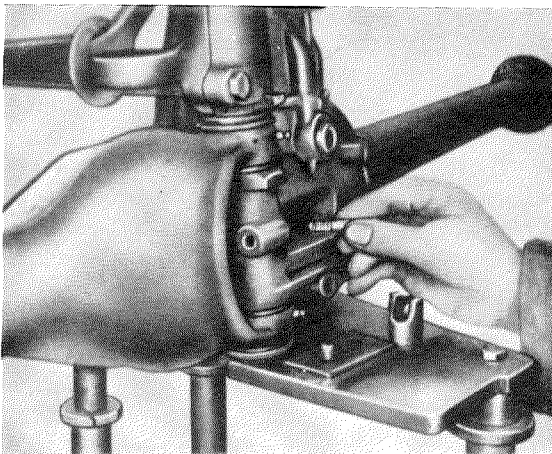

Fig. 35 — 4/11
37. Remove the hexagon nut (16) from the splined bolt (14) (see Fig. 35 — 4/12) and tap out the splined bolt (Fig. 35 — 4/11).